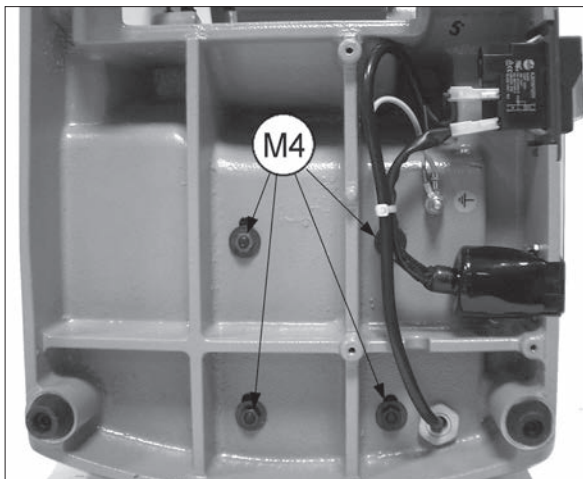

Fig. 60
- 4) Loosen and remove the 4 motor fixing nuts (Fig. 60).